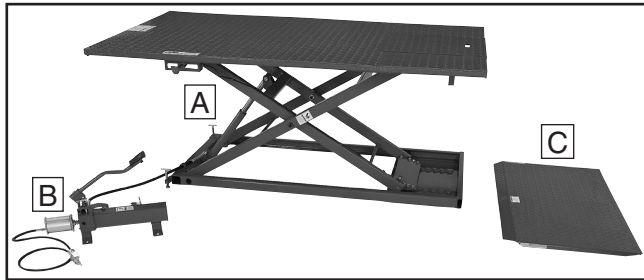

Figure 1. Model H8011 inventory.
## Inventory (Figure 1)
- Place the hydraulic pump by the side of the lift (see **Figure 1**).